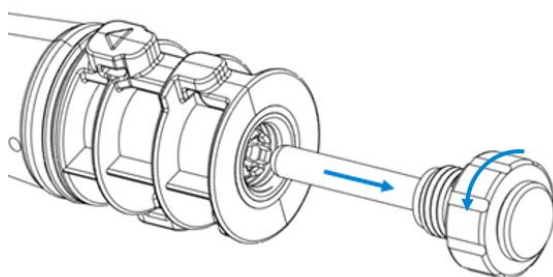

Figure 4 Unscrew and draw the shipping plug out of the torch body
1. Unscrew the locking nut on the torch body to remove the shipping plug. See Figure 4.